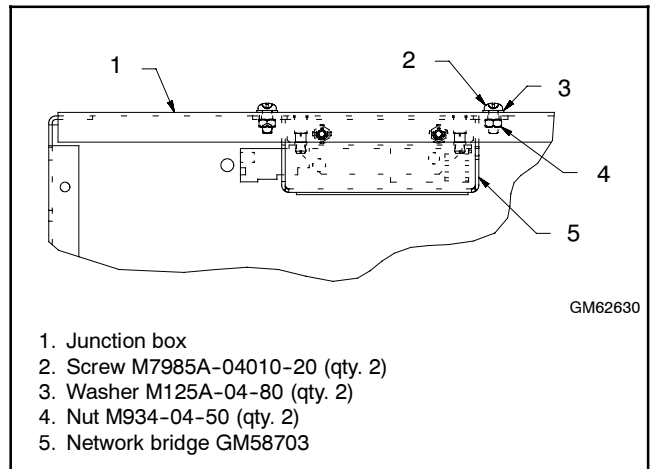

Figure 17 Network Bridge Mounting
- c. Install network bridge GM58703 inside the junction box as shown in Figure 17. Use two screws M7985A-0410-20, washers M125A-04-80, and nuts M934-04-50 to secure the bridge.